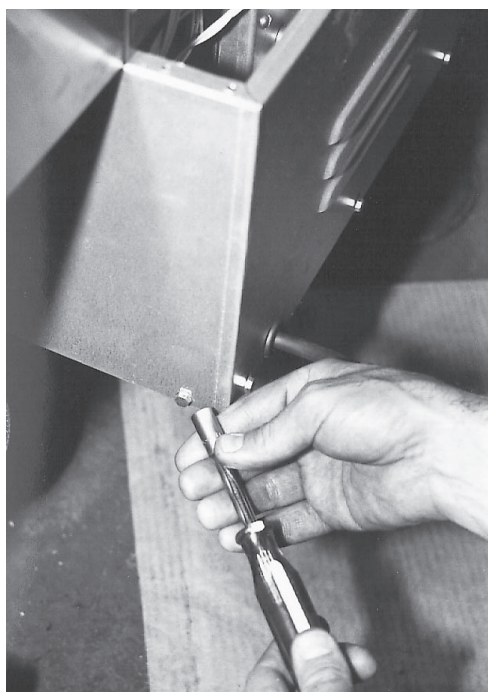

Fig. 58
6. Disconnect the gas line and remove the lower basket lift back by disengaging (2) screws at each lower side of the cover and (2) screws from each lower back corner using a 1/4" socket. (Fig. 58)